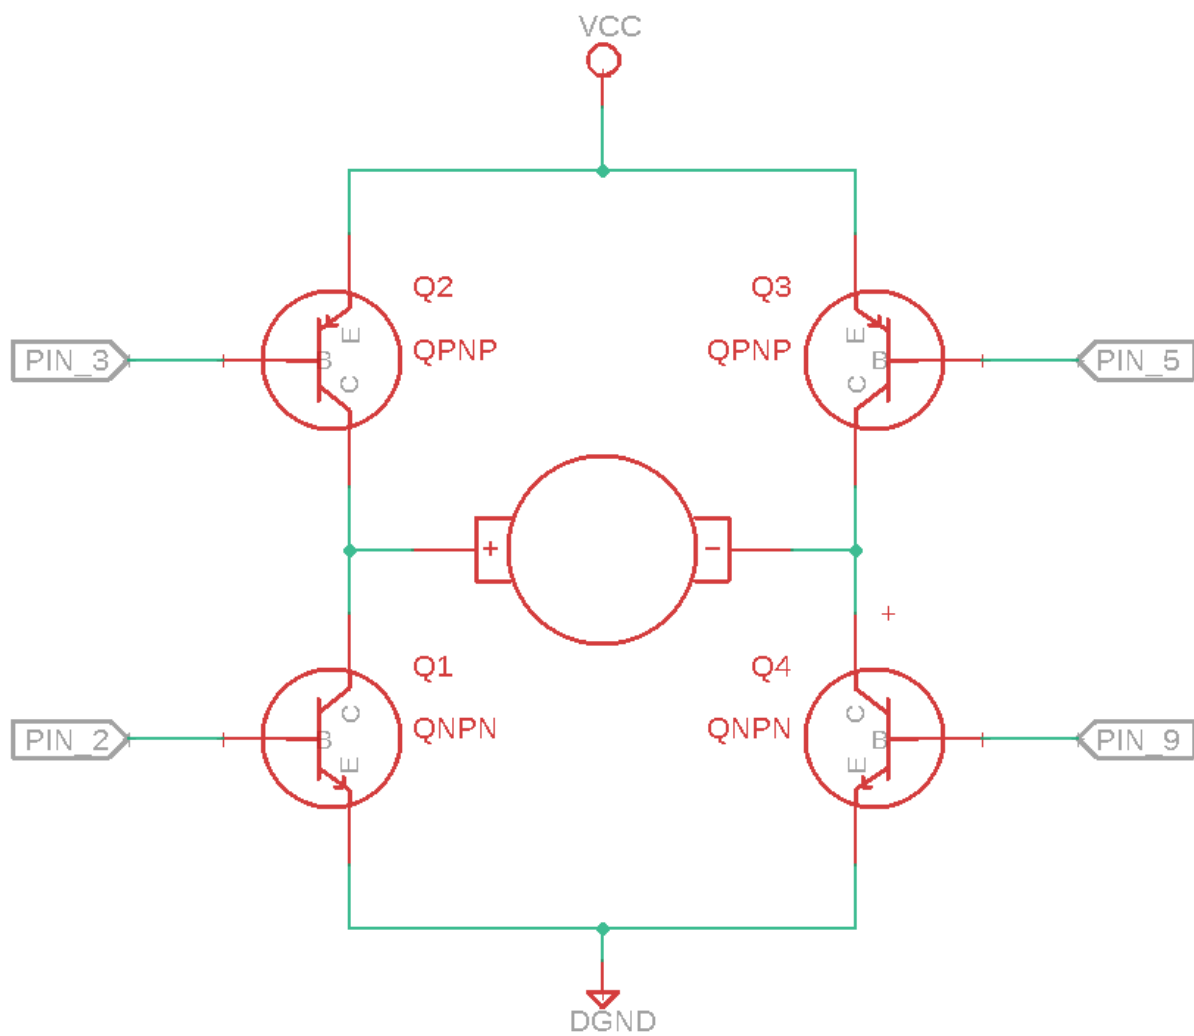

Figure 3: An example hookup guide to assist you in assigning pins. Note the usage of PNP transistors on the high side and NPN transistors on the low side.
**Warning:** Turning on the incorrect pair of transistors (i.e. accidentally closing Q2 and Q1 from Figure 3) will cause a short between power and ground. This low-resistance path to ground causes high current flow and can cause your transistors to heat up or get damaged. Make sure to double-check your pins before powering up your circuit. In addition, do a quick hot check by touching your finger briefly to each transistor. During normal operation the transistors will get warm, but if its hot enough to cause pain or discomfort there is a high chance that a problem exists in the wiring or code.